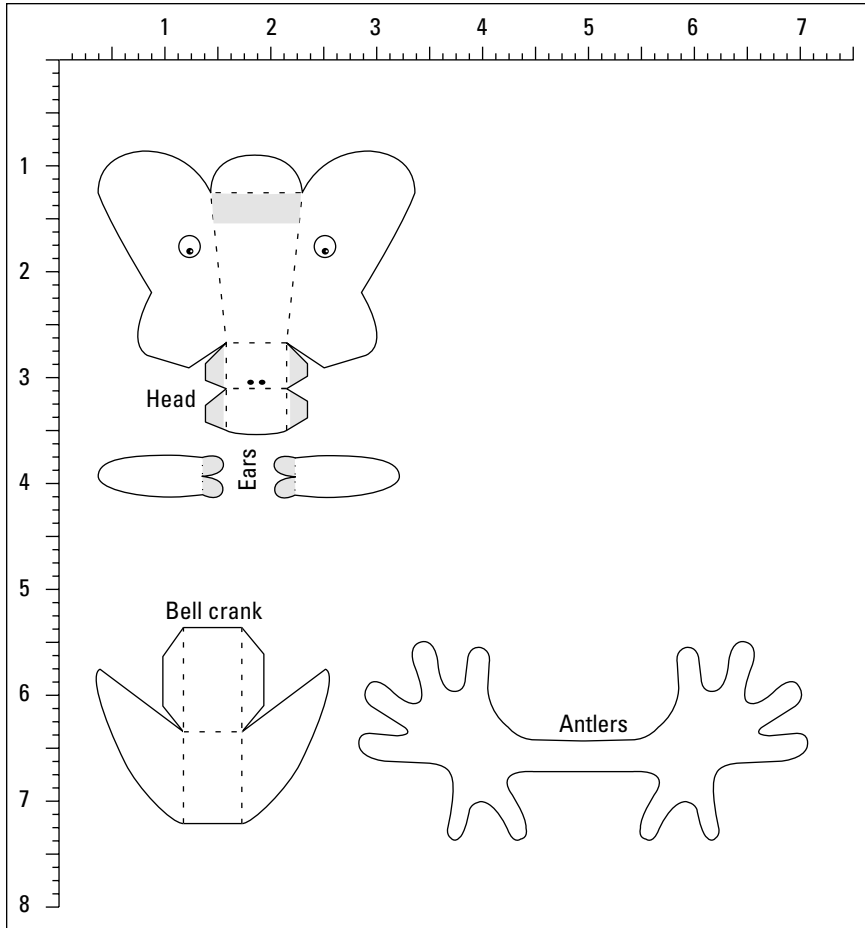

Figure 11-6:
- 1. Copy the template parts in Figure 11-6 onto a sheet of card.**